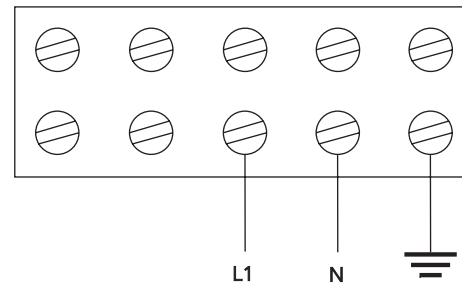

Figure 3 Variations of connection.
- Connect the three phases of the cable to terminal L1, L2 and L3 on the control and safety thermostat (see figure 3).